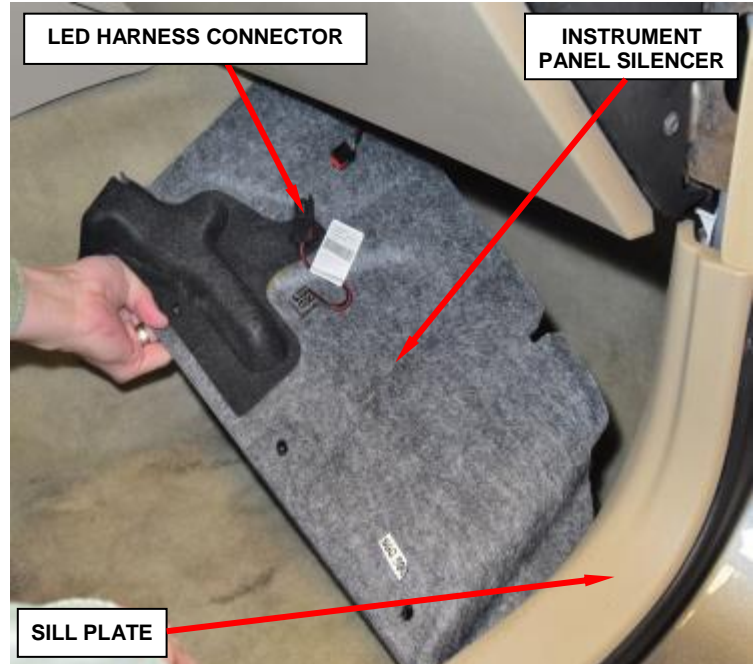

Figure 45 – Instrument Panel Silencer
- b. Remove the right side sill plate (Figure 45).
- c. Remove the three pushpins that secure the instrument panel silencer to the instrument panel (Figure 45).
- d. Disconnect the harness connector(s) and remove the right side instrument panel silencer (Figure 45).